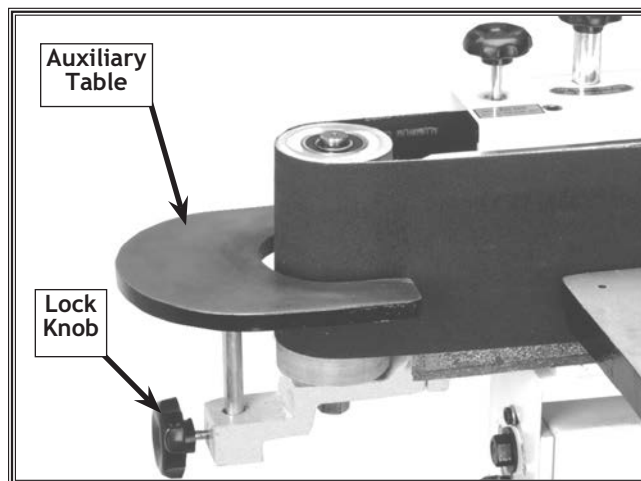

Figure 27. Auxiliary table installed.
1. Slide the auxiliary table into the mounting bracket. See Figure 27.
2. Position the auxiliary table so it is at the center position and it is not touching the idler roller and sanding belt. See Figure 27.